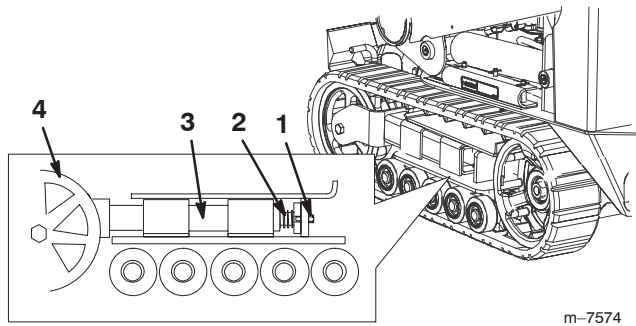

Figure 48
- Remove the locking bolt, spacer, and nut (Fig. 48).
- Align the closest notch in the tension screw to the locking bolt hole and secure the screw with the locking bolt, spacer, and nut (Fig. 48).
- Using a 1/2 inch drive socket, release the drive tension by turning the tensioning screw clockwise (Fig. 48 and 49).